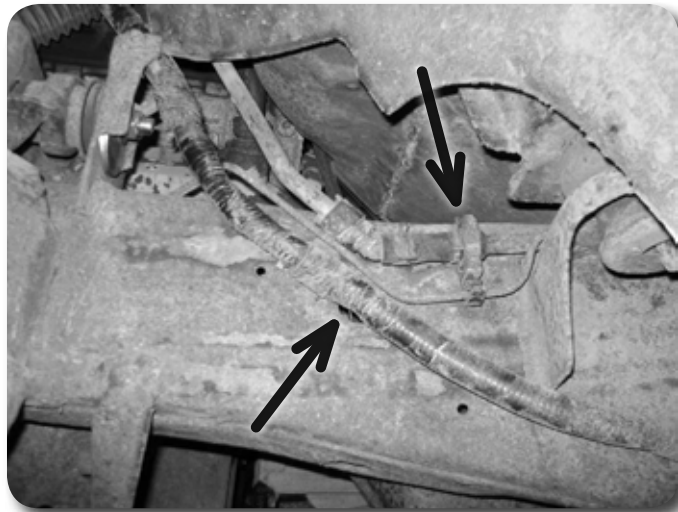

Figure 14
25. Remove the large steel line that runs on the outside of the driver's side frame rail from its front two retaining clamps. **Figure 14**
26. Check to see that the large wire loom on the driver's side frame rail has enough slack for three inches of lift. **Figure 14** Relocate as necessary.